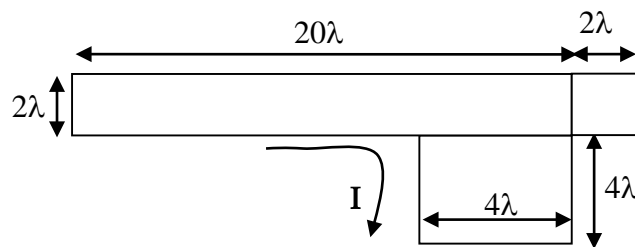

Figure Q4
- (a) Figure Q4 shows a polysilicon wire segment, not drawn to scale. If it has a sheet resistance of $R_s = R_{\text{spoly}} \Omega/\square$ and a relative capacitance of polysilicon-to-substrate of $1.0 \square C_g$, compute the following:-